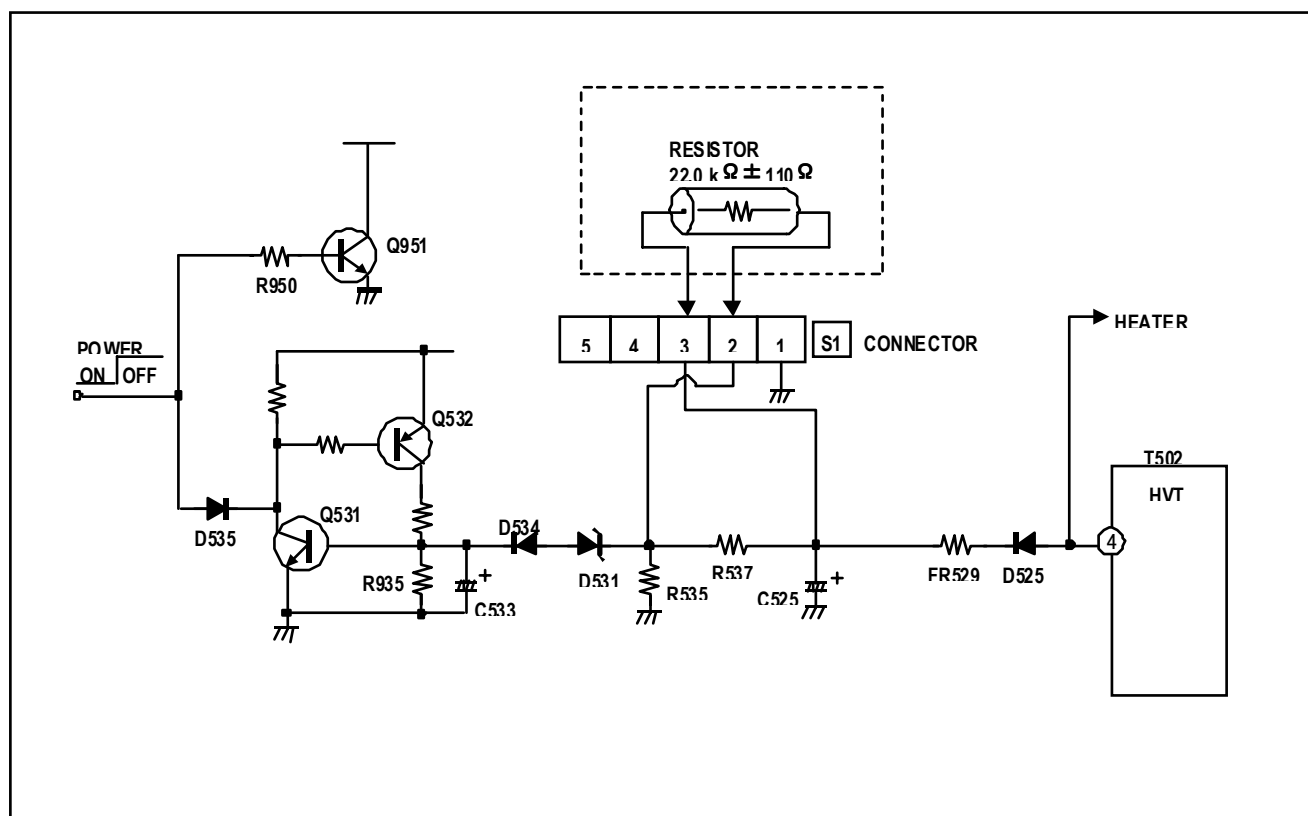

Fig. 1
After repairing the high voltage hold down circuit shown in Fig. 1.
- (1) Turn the power switch to on.
- (2) As shown in Fig. 1, set the resistor between [S1] connector [2] and [3] .
- (3) Make sure that the screen picture disappears.
- (4) Temporarily unplug the power plug.
- (5) Remove the resistor replaced [S1] connector [2] and [3] .
- (6) Again plug the power plug, make sure that the normal picture is displayed on the screen.